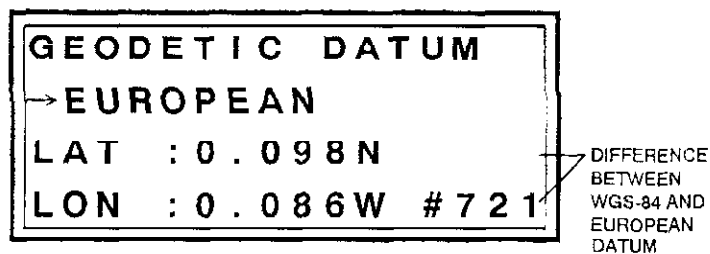

Figure 5-8 GEODETTIC DATUM display, European chart selected
4. Press the **ENT** key. The chart selected and latitude and longitude correction values appear on the display. If you selected the European chart system, for example, the display would look something like Figure 5-8.